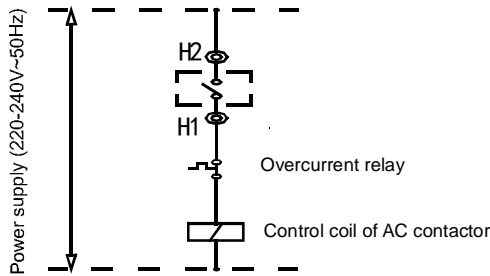

Fig.5-2
- Step 10. Connection of control wires of auxiliary electric heaters: the control wires of AC contactor of the auxiliary electric heater must pass the connection terminals H1 and H2 of the main unit, as shown in Fig. 5-2.